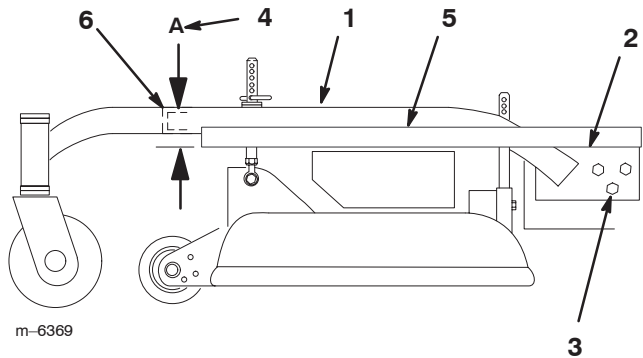

Figure 60
4. At the carrier frame cross tube, measure location A height (Fig. 60). This measurement must be 1–5/16 inch (33 mm), plus or minus a 1/4 inch (6 mm).
6. Loosen the carrier frame mounting bolts on both sides of the machine (Fig. 60).
7. Align the carrier frame and engine deck to match 1–5/16 inch (33 mm), plus or minus a 1/4 inch (6 mm) at location A (Fig. 60).
3. Place a long straight edge on top of the engine deck as shown in figure 60.